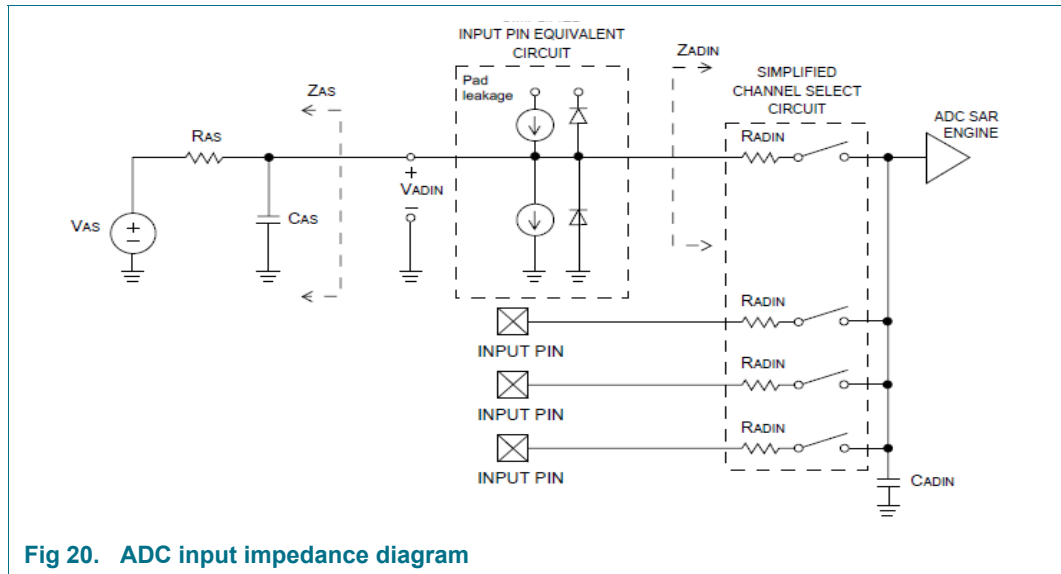

Fig 20. ADC input impedance diagram
| VADIN | analog input voltage | | See Figure 20 | VREFN | - | VREFP | V |
| CADIN | Analog Input Capacitance | | See Figure 20 . ^[3] | 4.5 | - | pF | |
| RADIN | Input Resistance | | See Figure 20 . | 500 | - | Ω | |
| RAS | Analog source resistance | | See Figure 20 . ^[8] | - | 5 | k Ω | |
- [3] CADIN represents the external capacitance on the analog input channel for sampling speeds of 1.0 Msamples/s. No parasitic capacitances included. See Figure 20
- [8] This resistance is external to the MCU. To achieve the best results, the analog source resistance must be kept as low possible. The results in this data sheet were derived from a system that had $< 15\ \Omega$ analog source resistance. See Figure 20.
- (1) Example of an actual transfer curve.
- (2) The ideal transfer curve.
- (3) Differential linearity error (E_D).
- (4) Integral non-linearity ($E_{L(adj)}$).
- (5) Center of a step of the actual transfer curve.